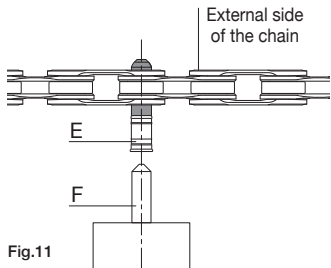

Fig.11
- Check that the tapered tip of the pusher (F) (Fig. 11) is in line with the centre of the bushing 5-CN-SR700 (E) (Fig. 11).